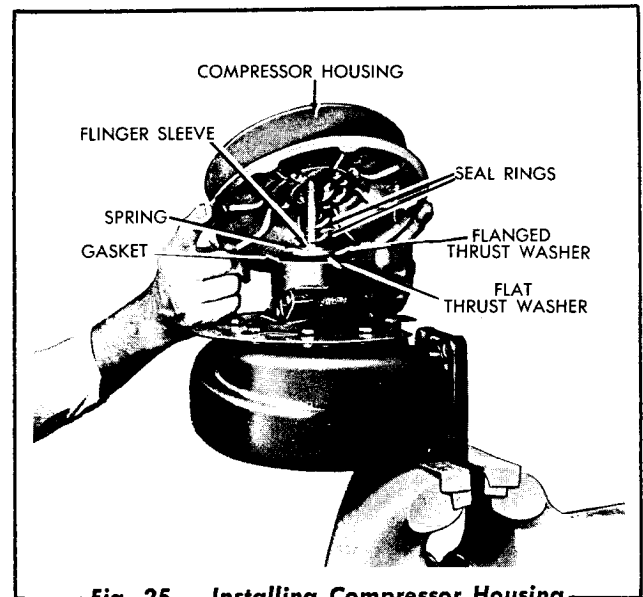

Fig. 25 — Installing Compressor Housing
- a. Place spring over flanged thrust washer (Fig. 25).